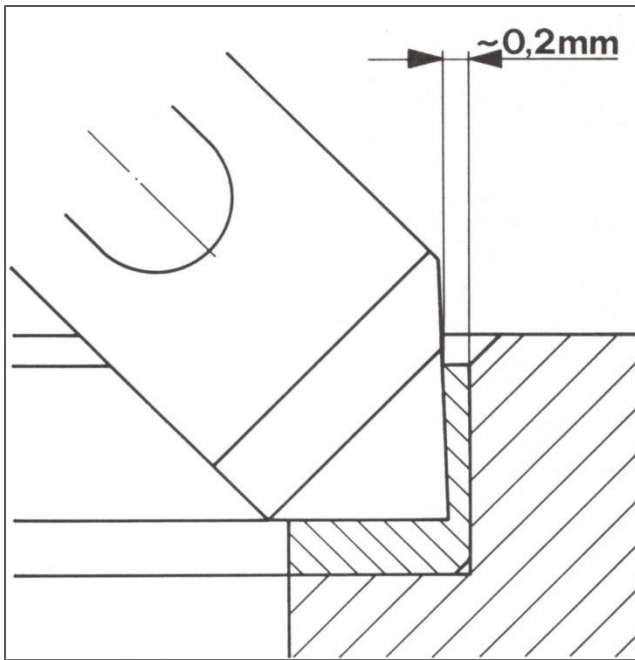

Fig. 32
3. The old insert valve seat ring can be removed in a swift and easy operation. The formtool must be set in order to have a 0.2mm wall remaining, which can be removed easily by hand. Fig. 32